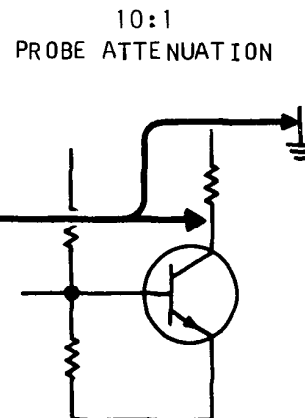

Figure 4. Typical Voltage Measurement
5. Calculate the voltage reading as follows: Multiply the vertical deflection (in cm) by the VOLTAGE/CM control 4 setting (see example in Figure 4). Don't forget that the voltage reading displayed on the oscilloscope is only 1/10th the actual voltage being measured when the probe is set for 10:1 attenuation. The actual voltage is displayed when the probe is set for DIRECT measurement.